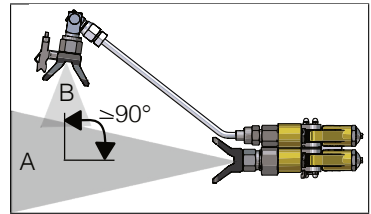

Fig. 12: Setting angle of nozzle for component B
- ▶ Set the reversing switch with the nozzle for component B so that the material hits component A at a right angle (see Fig. 12).